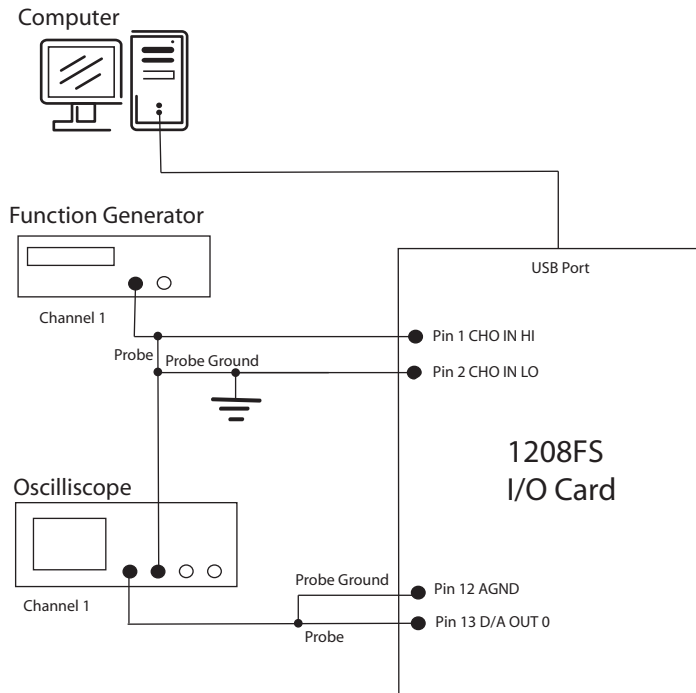

Figure 1: Hardware configuration for this Module. You will also need to use a second oscilloscope probe connected to the output of the function generator.
1. Configure the I/O card, the function generator and oscilloscope as shown in Figure 1. The signal will be input to CH0 IN. Note that CH0 and CH1 are a differential input, thus you also need to ground CH1, as shown in the figure. Otherwise the CH0 value will be relative to an unknown, floating signal.